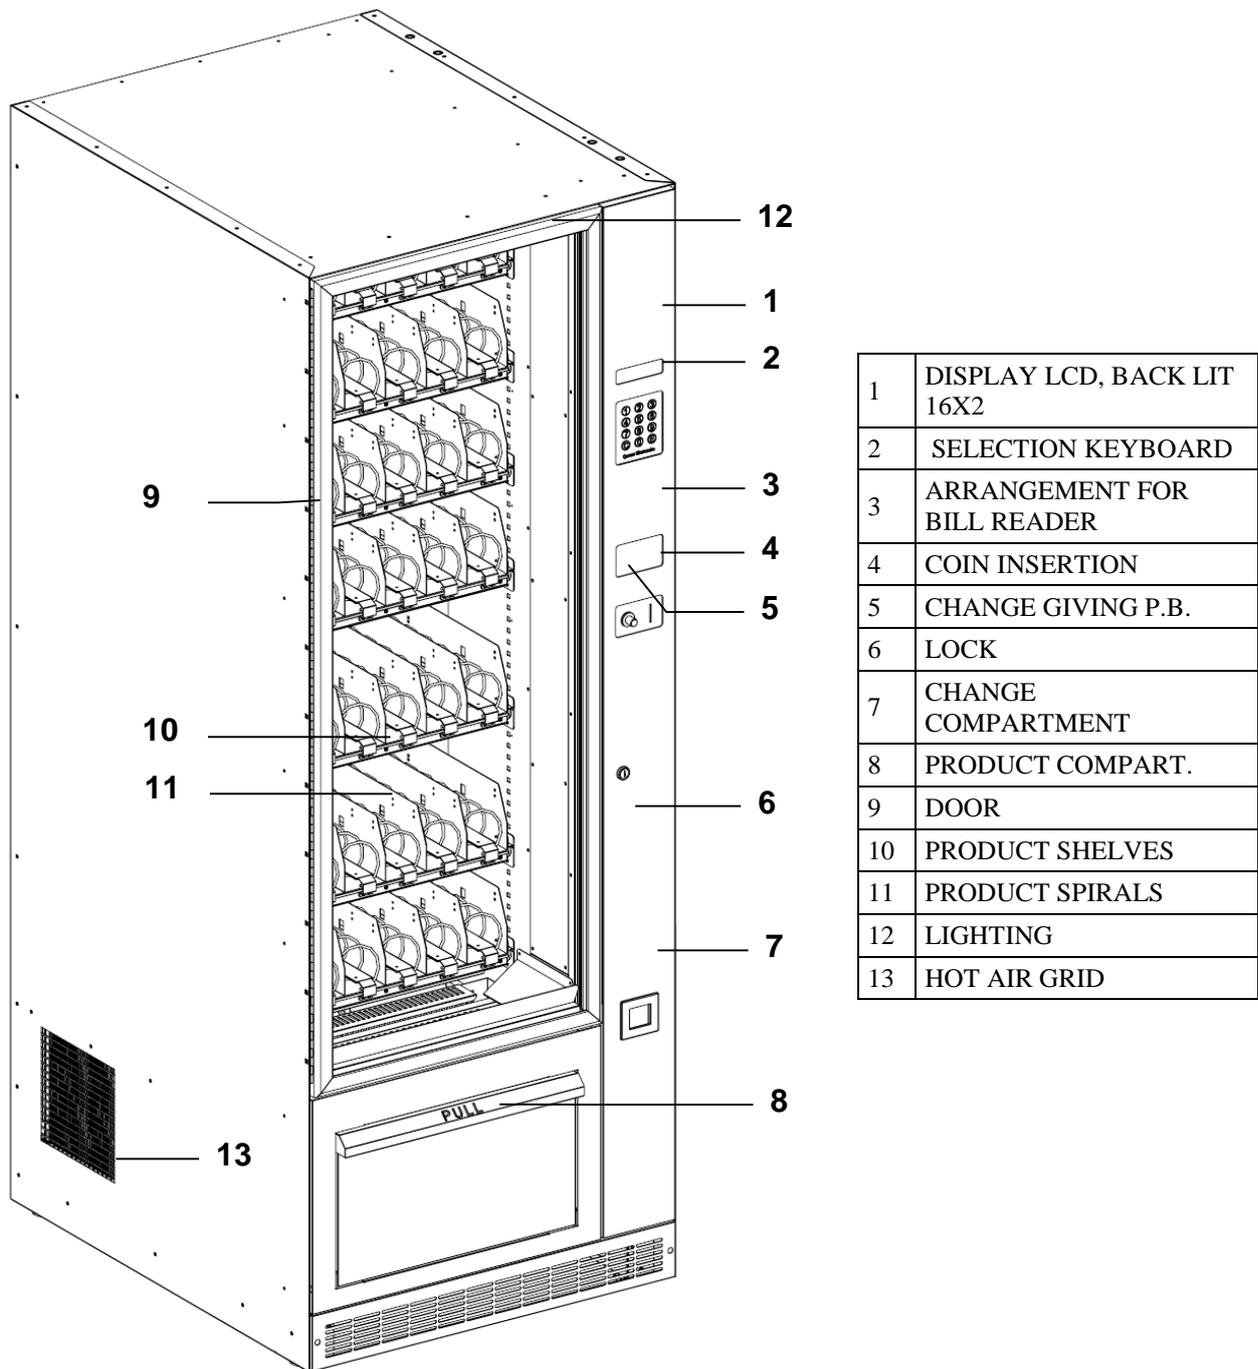

Figure 2.1
For proper operation of the cooling unit, the side grill (Figure 2.1 /13) must be kept completely free (at least 40 cm. from wall).
- 5) Collect product and change from the proper doors (Figure 2.1 /7 /8).